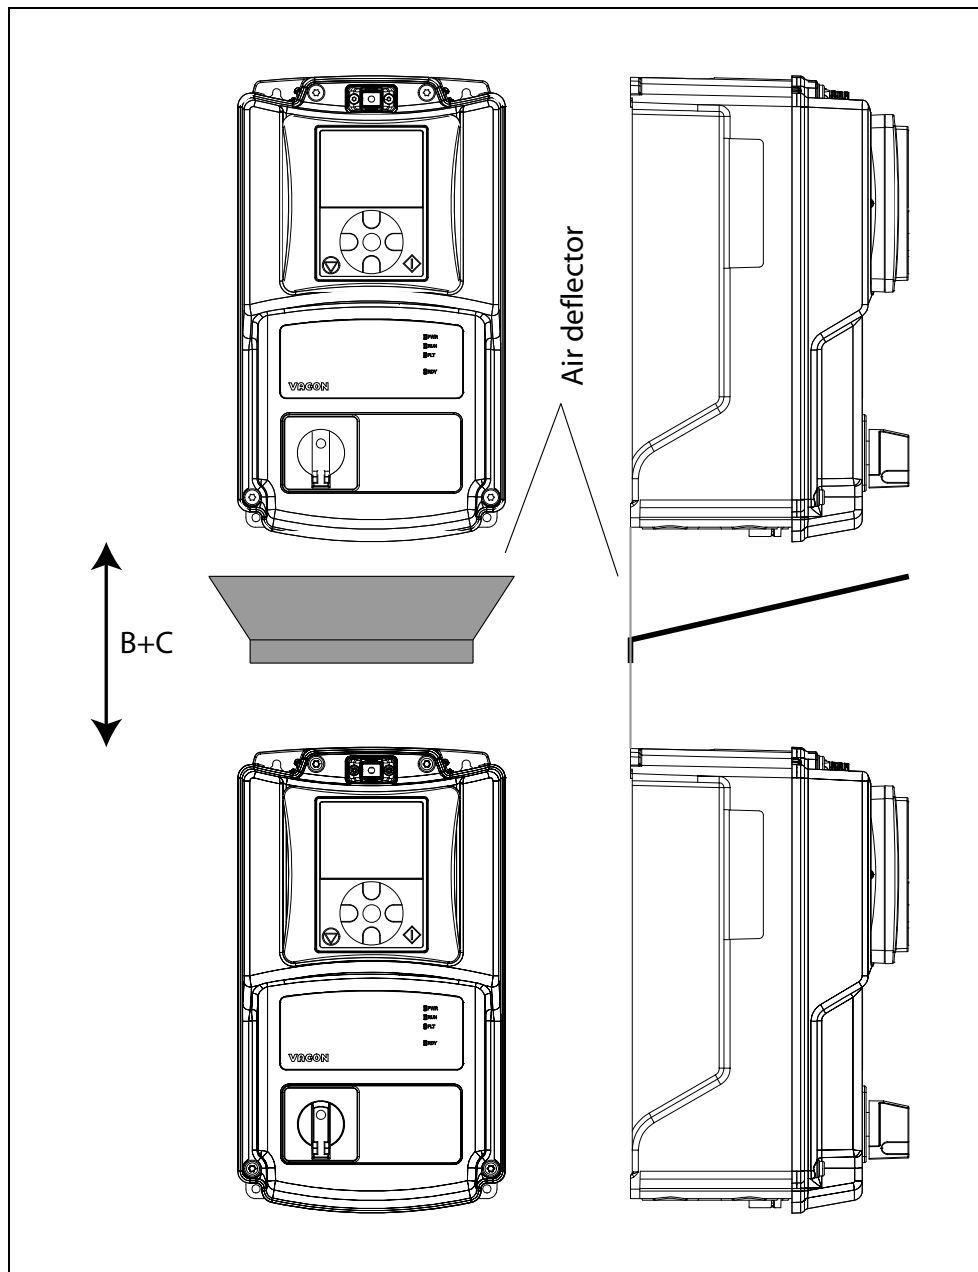

Figure 14. Installation space when drives are mounted on top of each other.
**NOTE** that if several units are mounted **above** each other the required free space equals B+C (see the Figure 14.). Moreover, the outlet air used for cooling by lower unit must be directed away from the air intake of the upper unit by means of e.g. a piece of metal plate fixed to the wall between the drives as shown in Figure 14..